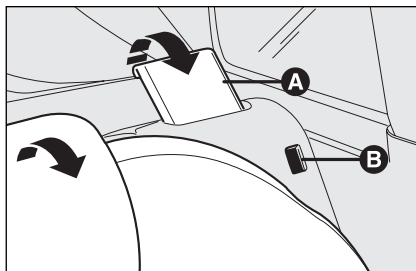

fig. 112
Lift the seat backs and push them backward until both coupling mechanisms click in place, check that the “red band” **B**-fig. 112 at the side of levers **A** is no longer visible.
*Make sure the seat back is correctly hooked on both sides (“red bands” **B**-fig. 112 not visible) to prevent seat back being thrown forwards and injuring passengers should you brake sharply.*